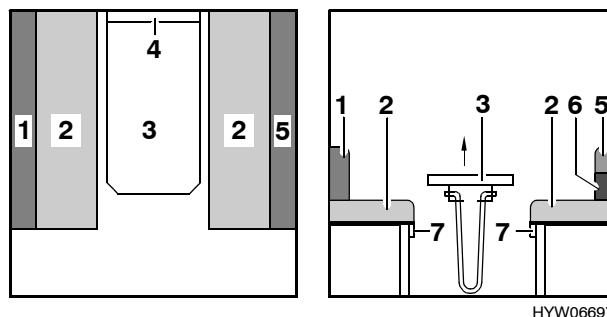

Fig. 40 Prior to conversion
- Slightly lift the front of the table-top (Fig. 40,3).
- Lift the table-top (Fig. 40,3) by approx. 45°, remove it out of the mounting rail (Fig. 40,4) and place to the side. The table is not required for the sleeping conversion.